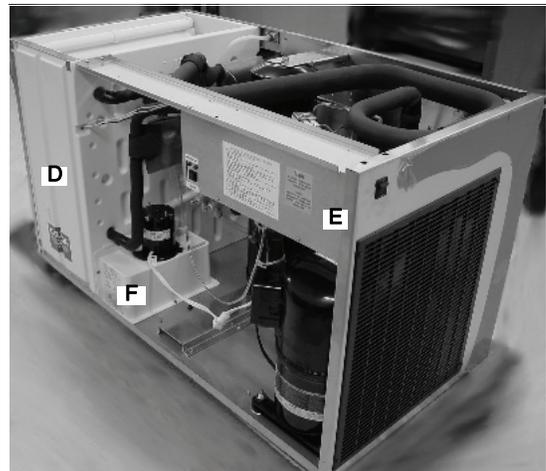

Figure 8.
The refrigerant type and charge are indicated on the serial plate, located on the water pan (F) (FIGURE 8). This charge amount does NOT include that which is normally present in a factory charged condenser or line set.